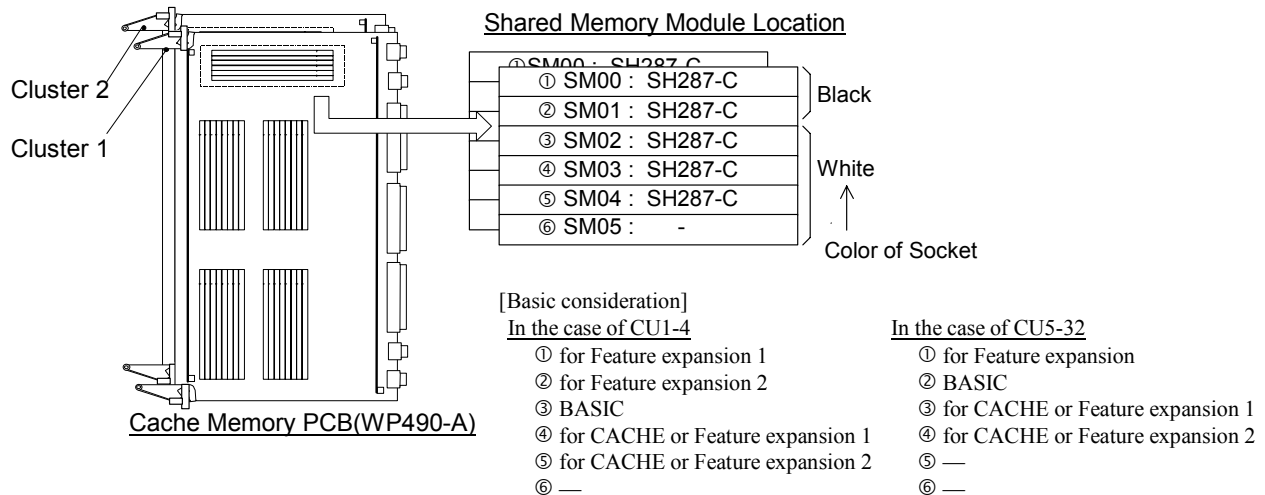

Fig. 1.1.2.3-2 Actual location of shared memory module
- Note. *1: Location ①-⑤ shows actual location of shared memory module on Cache PCB. (Refer to Fig. 1.1.2.3-2)